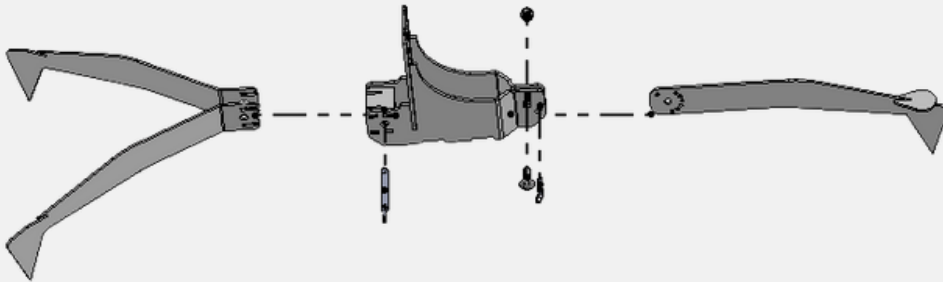

FIG 1.
2. Insert the 3 Legs into the Base, then insert 1/2" x 3" quick pin into the hole on mounting base to secure the back two feet, as Shown in Fig. 1
4. Insert 1/4" x 1" quick pin to secure leg from rotating, as Shown in Fig. 1